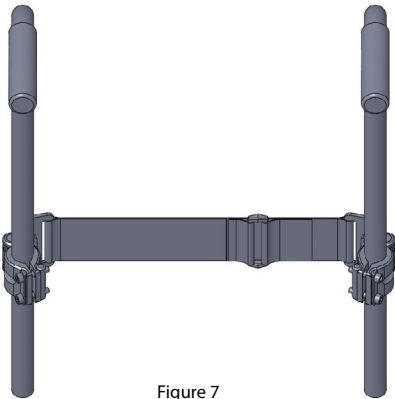

Figure 7
- 1) Install the anchor mechanisms at a predetermined height by tightening the jaw with a 4mm Allen key. (Figures 7 and 8)
- 2) Change the fastener angles to adjust the strap depth with screw **D**. (Figure 7 and 8)